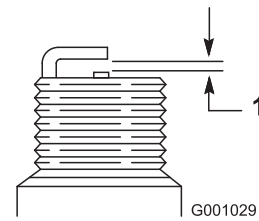

Figure 22
4. Set the gap between the electrodes on a new spark plug at 0.76 mm (0.030 inch) as shown in Figure 22.